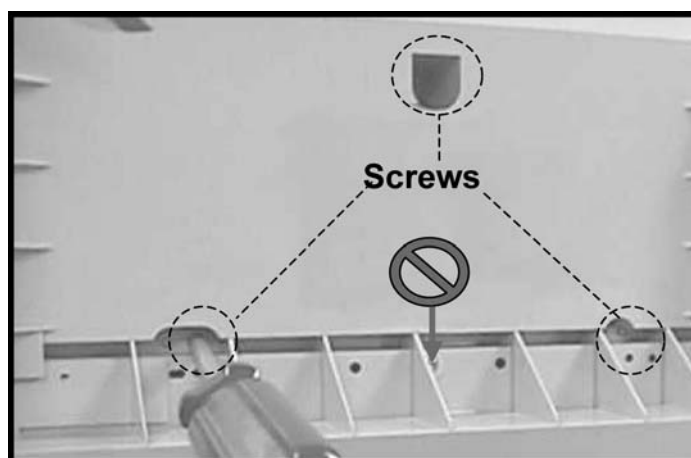

Figure 1
2. Turn the scanner up side down. Remove the three screws show in Figure 1.